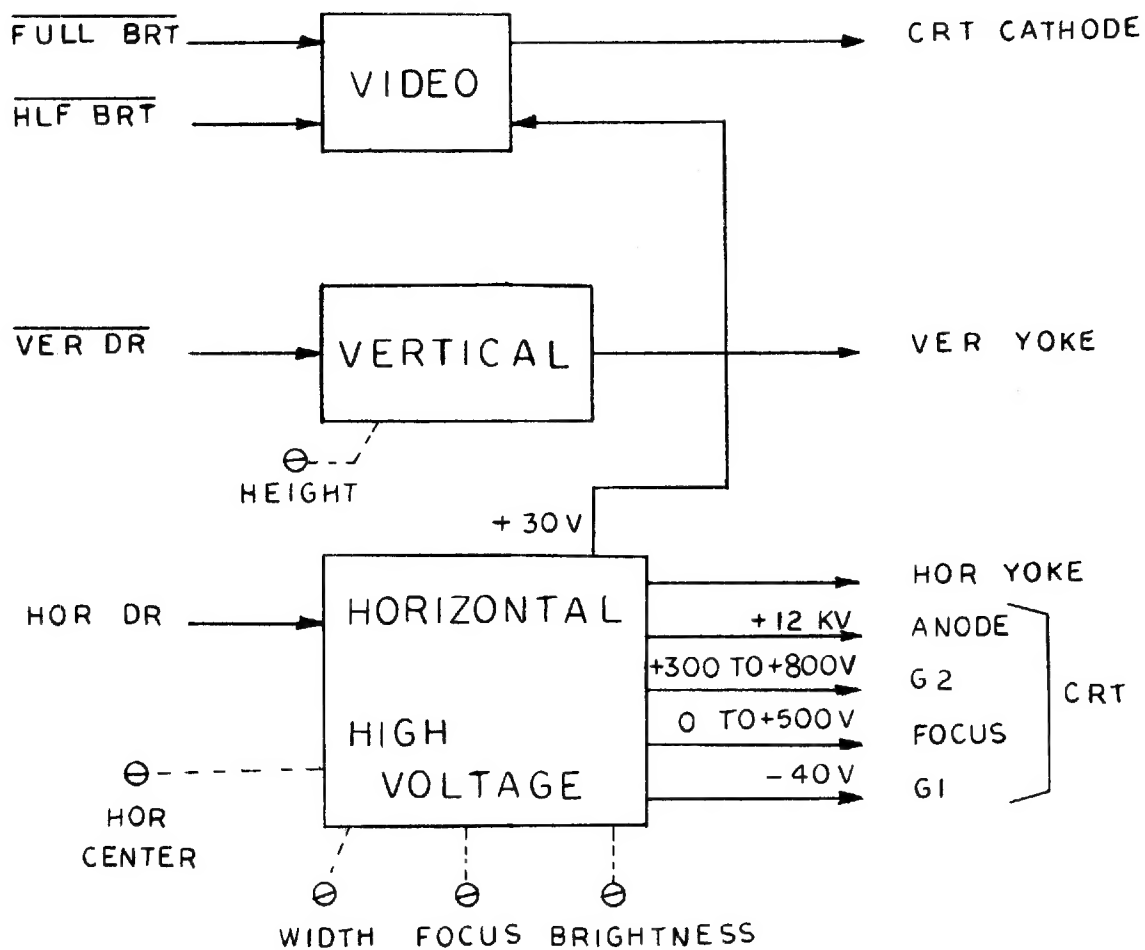
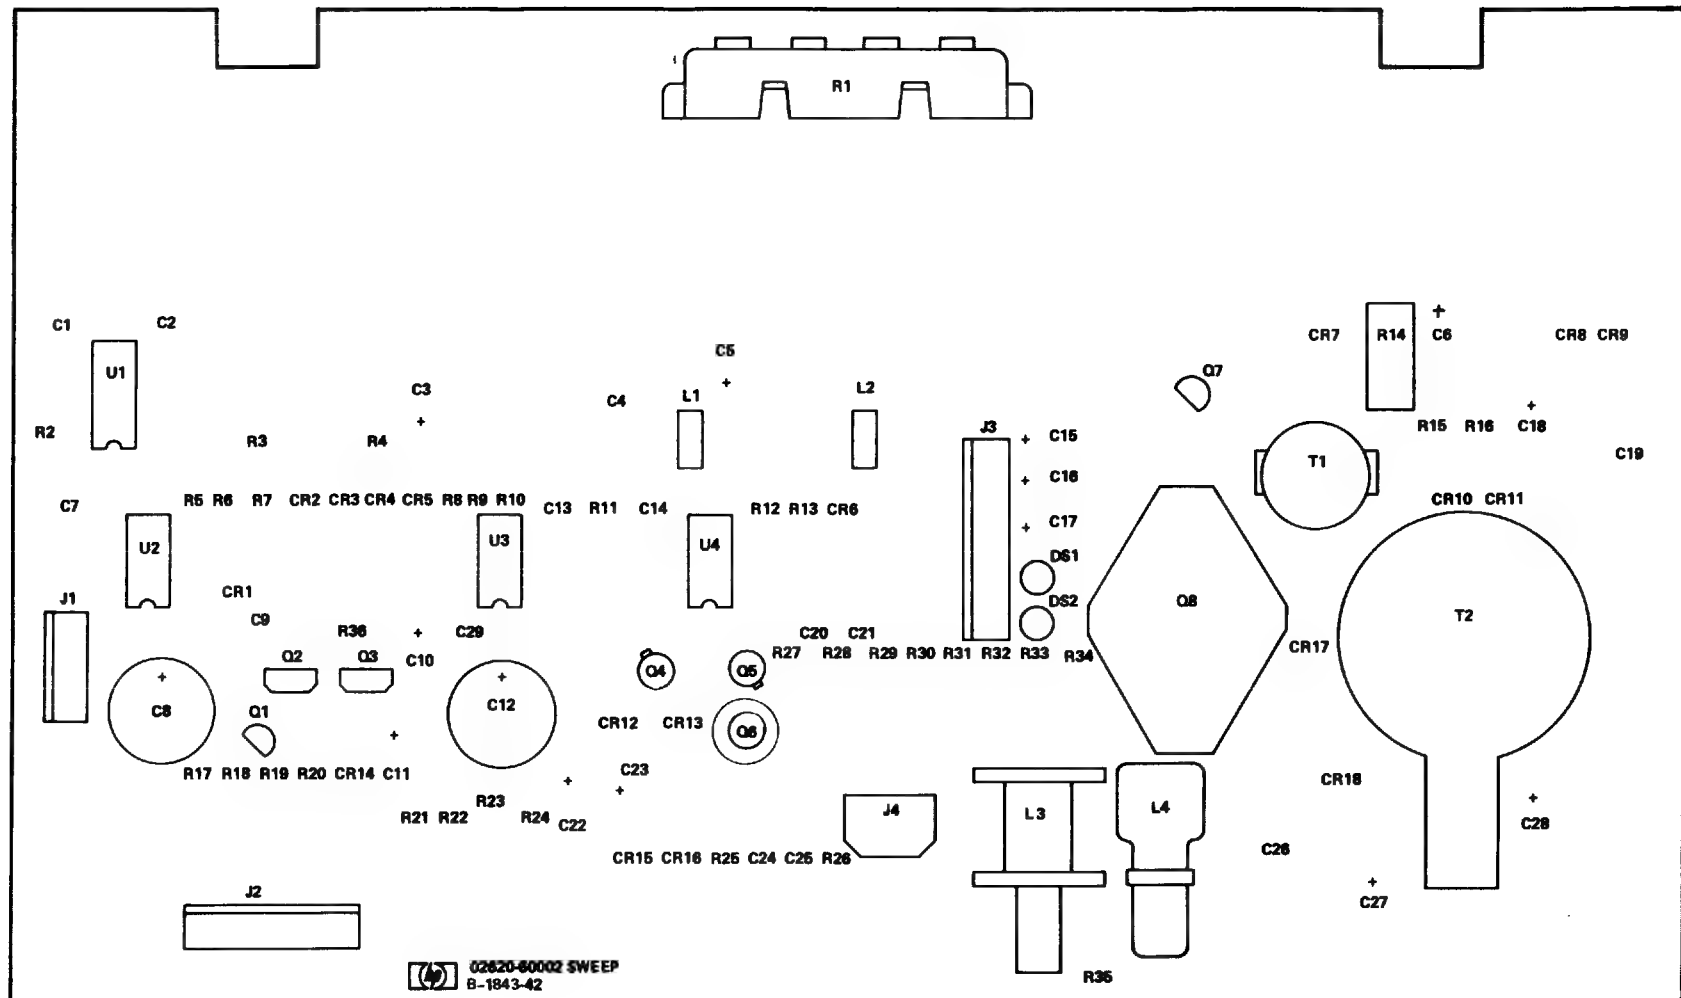

Figure 3
Figure 4
- 3.0 FUNCTIONAL DESCRIPTION. Refer to the block diagram (figure 1), schematic diagram (figure 2), timing diagram (figure 3), the component location diagram (figure 4), and parts list (02620-60002) located in the appendix.